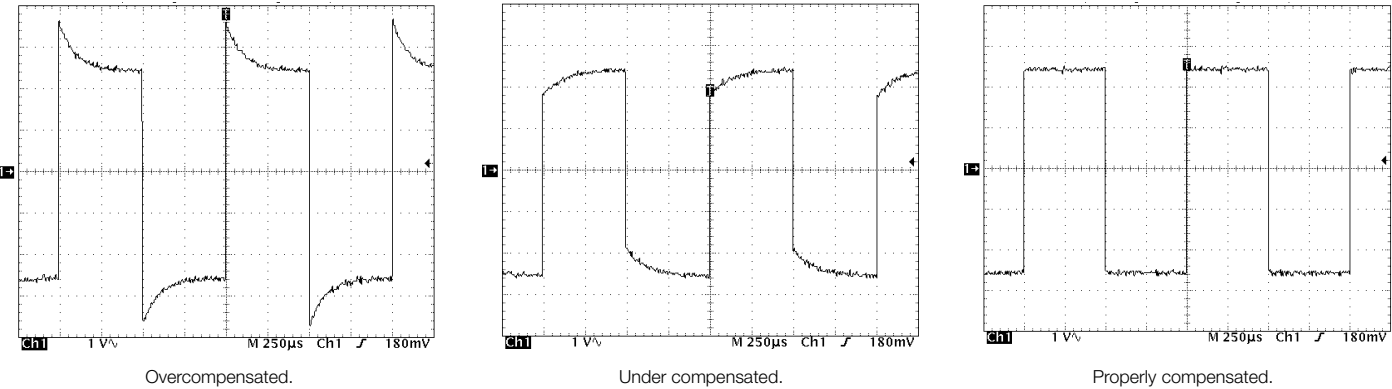

Figure 1.11. Examples of probe compensation effects on a square wave.
3. Use the adjustment tool provided with the probe or other non-magnetic adjustment tool to adjust the compensation network to obtain a calibration waveform display that has flat tops with no overshoot or rounding (see Figure 1.11).